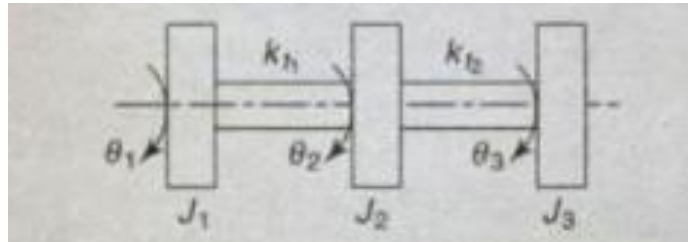

Figure 5
6. Find the natural frequencies of an unrestrained system shown in figure 5.